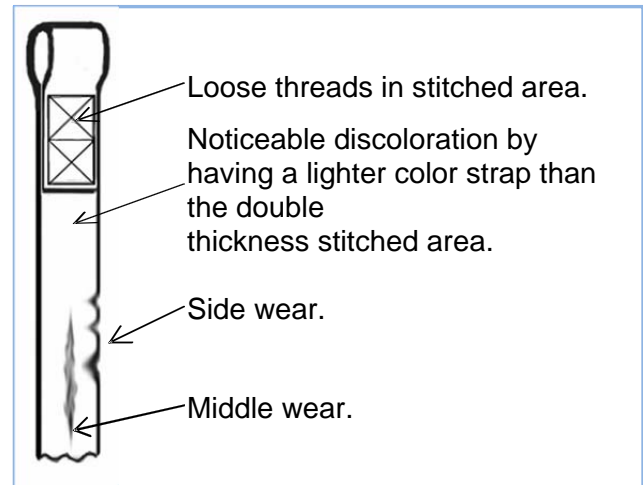

Figure 3
- Inspect the strap for any visible signs of wear, frays, loose threads or other damage (see Figure 3). If there is any evidence of damage, **DO NOT USE IT**. Contact your local ArjoHuntleigh representative to have the lift serviced.